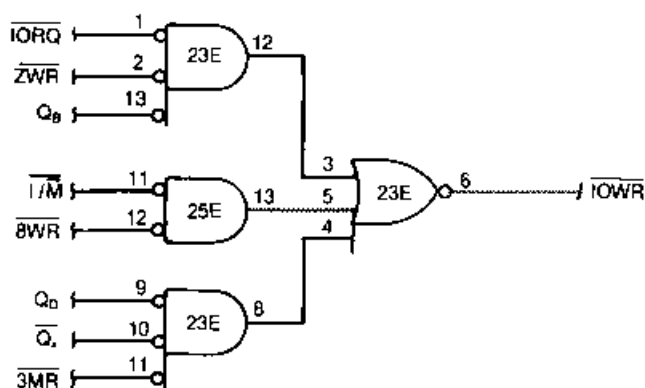

FIGURE 2-45. WRITE SIGNAL GENERATOR
2.3.3.1 I/O Write Signal Generator (Figure 2-45)